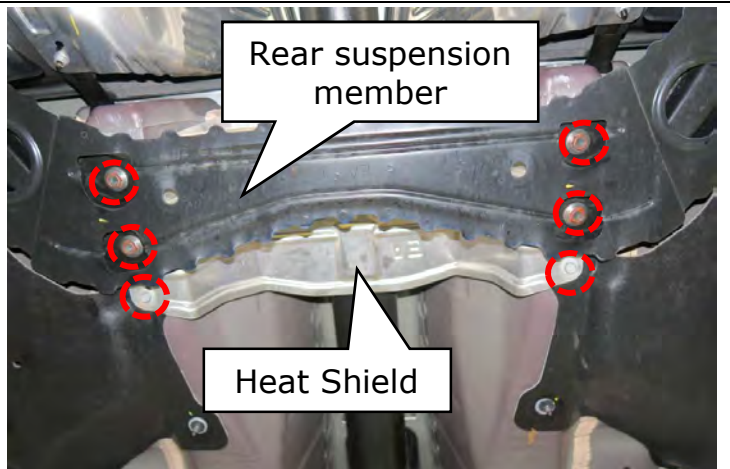

Figure 129
125. Reinstall the (4) rear suspension member bolts and the (2) heat shield bolts. (Figure 129)